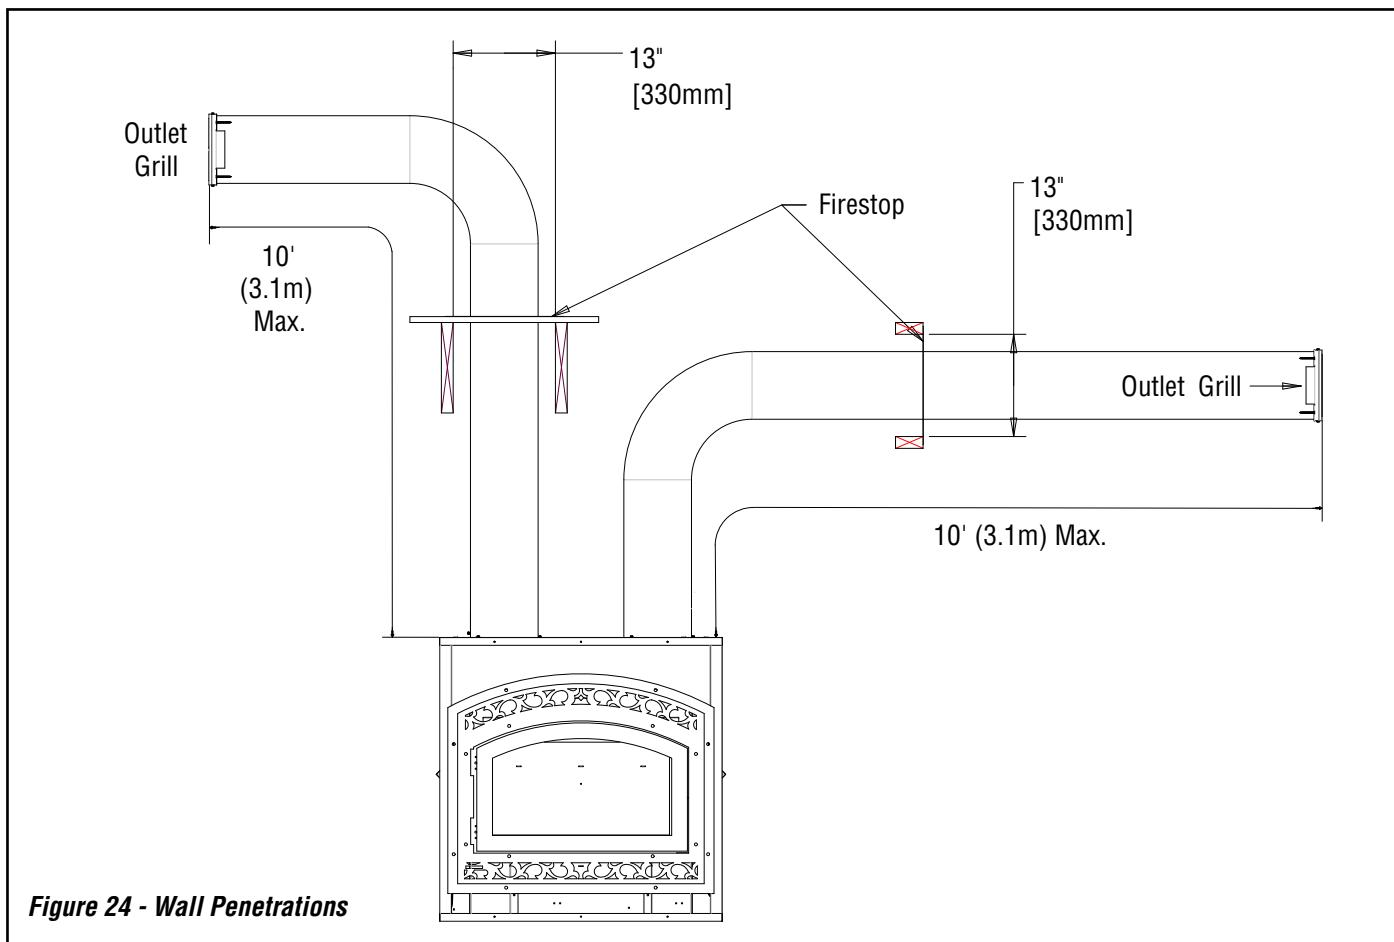

Figure 24 - Wall Penetrations
- When traversing a combustible wall or floor, a firestop (not provided) must be installed at the wall or floor penetration. Maintaining a minimum 1" (25mm) clearance between the ducts and any combustible material, the hole size must be 13" X 13" (330mm X 330mm) (see **Figure 24**).